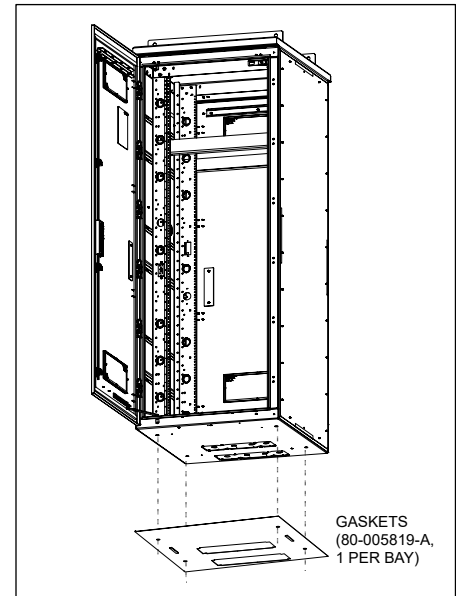

Figure 15 Gasket Installation
3. Install the gaskets by positioning them on the pad so that they are underneath the bottom of the MC-x/ME-x when the cabinet is installed. Line up the gaskets so that the cutouts are in proper position around the conduit openings and the bolt holes as shown in Figure 15. Use the adhesive strips on the underside of each gasket to secure them to the concrete pad to prevent them from shifting as the cabinet is lowered.